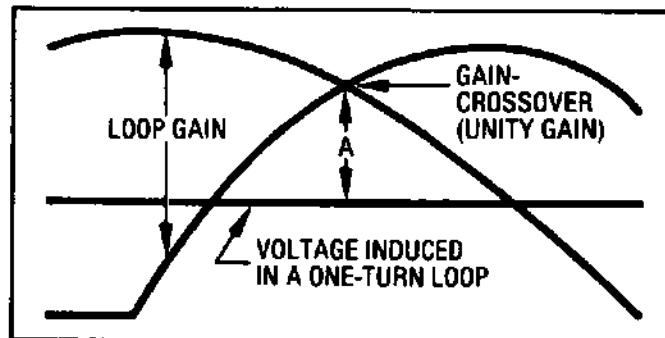

Figure 5-15. Spectrum Analyzer Display of Phase Locked Loop Gain
6. Press the single sweep key. Check that the gain-crossover frequency is  $20 \pm 2$  kHz. If the gain-crossover frequency is not correct, A3A9A4R20 must be changed to set the correct frequency; otherwise, this adjustment is complete. See Figure 5-15.